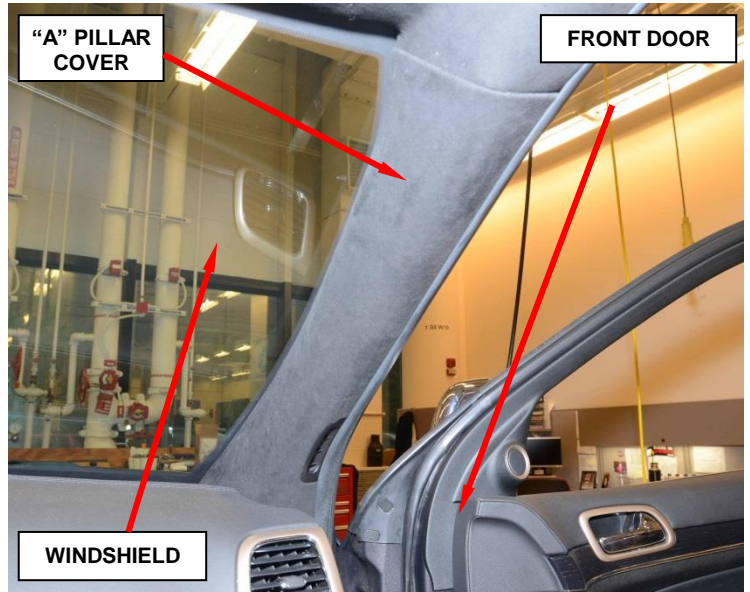

Figure 3 – “A” Pillar Cover (right side shown)
6. Remove and save the right and left side “A” pillar covers (Figure 3).